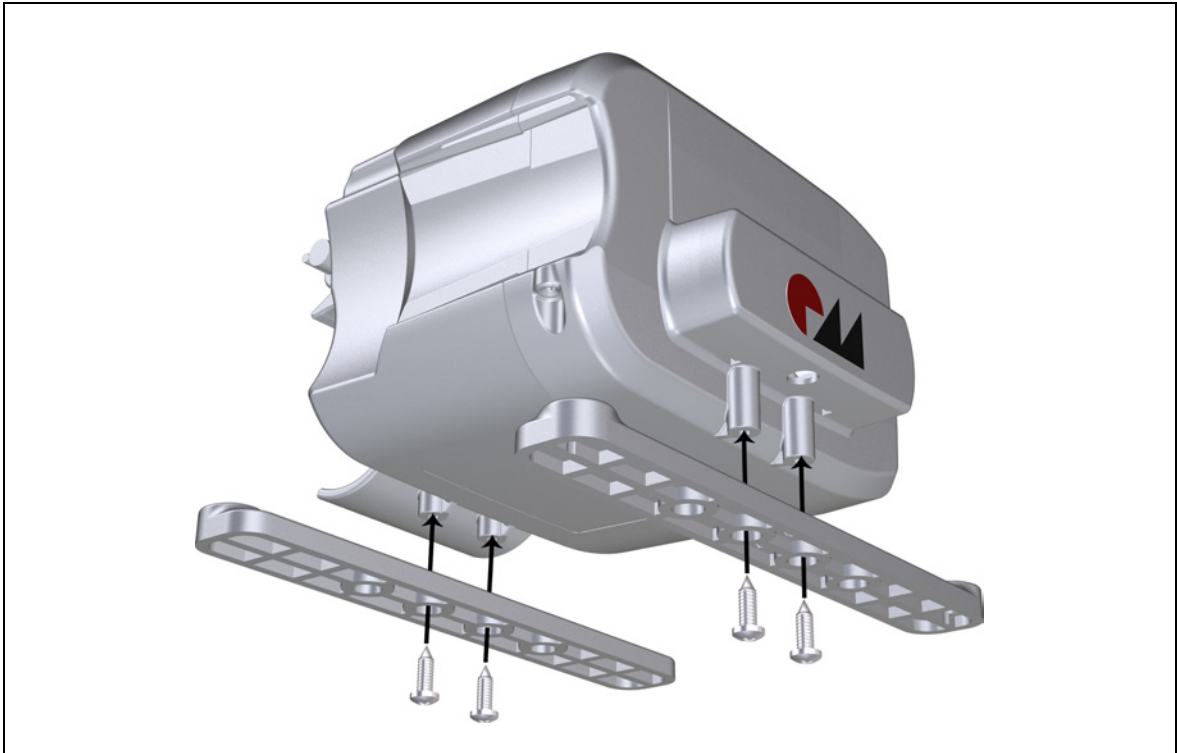

Figure 11 Mounting the adapter on the MC10 control unit
- 1 Mount the optional adapter to the control unit using four screws (according to DIN 7981: 3.9 mm diam. and 13 mm length), as shown in Figure 11.